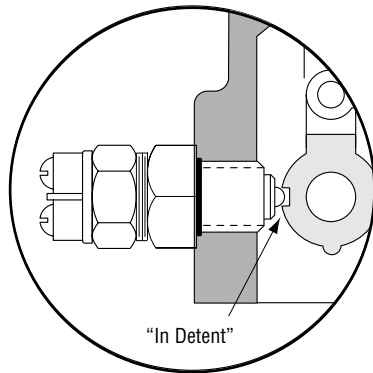

Figure 2-1
- (a). First apply a high temperature water resistant grease to the threads. Screw the switch in slowly, while moving the hydraulic control arm back and forth, until "detent" action is detected in the arm movement. See figure 2-1 . Back out the switch until the "detent" action is very slight. Then position the arm out of the detent position (figure 2 -2).